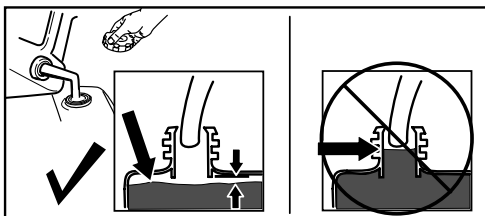

Figure 14
Fill the fuel tank as shown in Figure 14; do not fill above the bottom of the fuel tank neck.
- Remove an obstruction from the discharge chute; refer to Clearing a Clogged Discharge Chute \(page 15\). Use the snow-cleanout tool (Figure 14), not your hands, to remove an obstruction from the discharge chute.